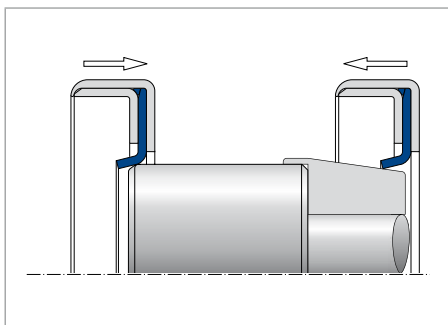

Fig. 51 Fitting a Simmerring with sealing lip made of PTFE
- When fitting over a groove of a tongue and groove joint on the shaft, the groove on the shaft must be covered with a protective cap (→ Fig. 51), to avoid damage to the sealing lip
It is important that the PTFE sealing lip is not damaged, especially when assembling the front side in the direction of the fitting. The use of a pilot shaft with a chamfer angle of  $10^\circ \dots 15^\circ$  (→ Fig. 51) is recommended).